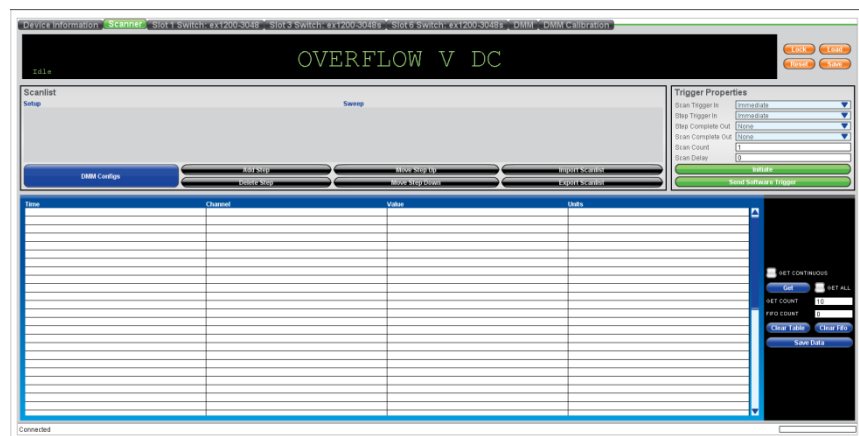

FIGURE 7-5: SCANNER SOFT FRONT PANEL
- **Reset:** Resets the SFP and the connected modules to power-on defaults. Figure 7-5 shows the default values for the scanner.